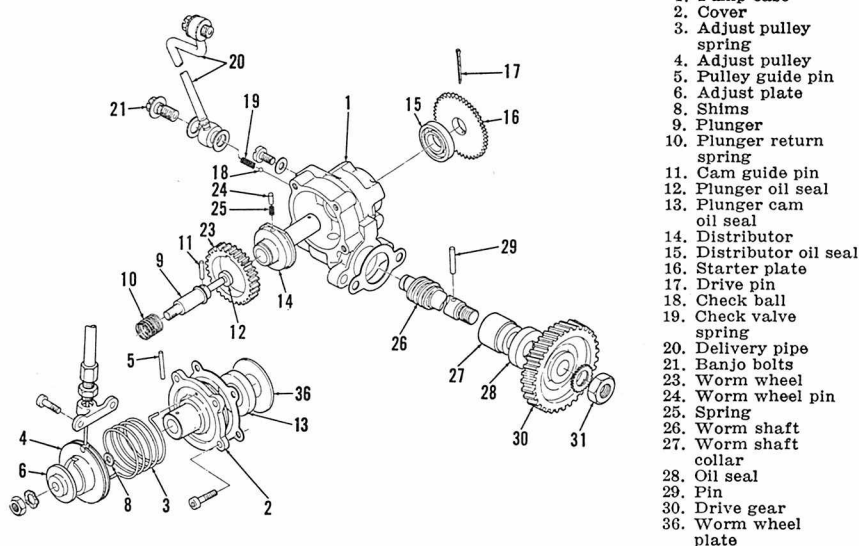

Fig. Y1-7—Exploded view of oil pump and metering unit used on YG51 models. Other models with "AUTOLUBE" are similar.
When disassembling, refer to Fig. Y1-7. Make certain worm wheel (23) is installed over pin as shown in Fig. Y1-9.